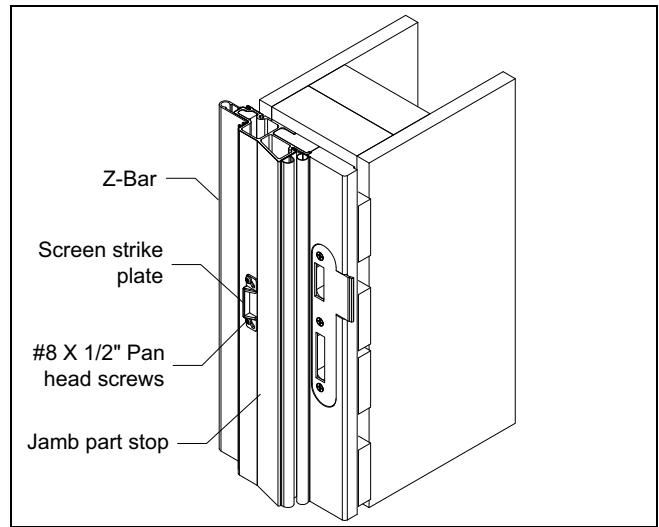

Figure 10
- Position strike on jamb as shown in figure 10. Center strike plate on mark from previous step.